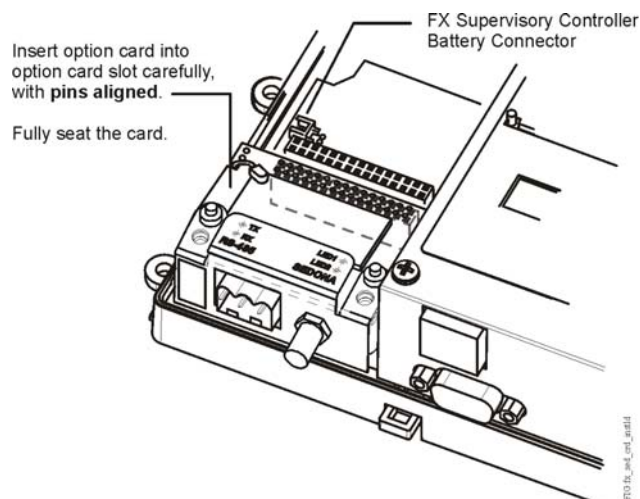

Figure 3: Sedona Option Card Inserted with End Plate on Top
- Plug the battery cable into the battery connector on the FX Supervisory Controller (see Figure 3 for battery connector location).